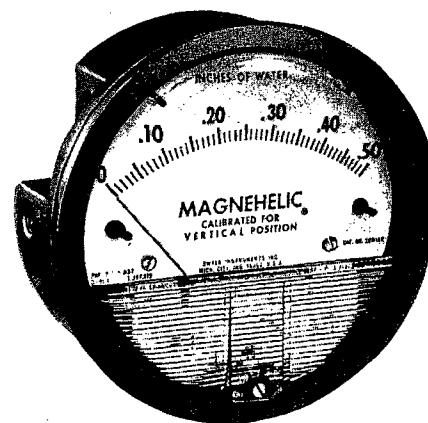

FIG. 51 – MAGNAHELIC PRESSURE GAUGE
"Magnehelic" is not a generic term but is registered by Dwyer Instrument Company. The magnehelic gauge is a diaphragm-operated gauge that has several advantages over a liquid manometer: (1) It need not be leveled to 0 and can be used easily on a ladder or unlevel surface. (2) When hooked up to the Pitot tube it need not be purged of air bubbles as the liquid manometer may. (3) There is less chance of parallax error in reading the dial face. (4) It is easily transported without the chance of losing the liquid charge. Unless extreme accuracy is required, this instrument may replace the manometer for average air conditioning work, and like the manometer, is available in a variety of ranges. The dial is only 4 inches in diameter and therefore has a limited scale; several instruments are required to cover the normal ranges encountered in average air conditioning jobs. Refer to Figure 51.